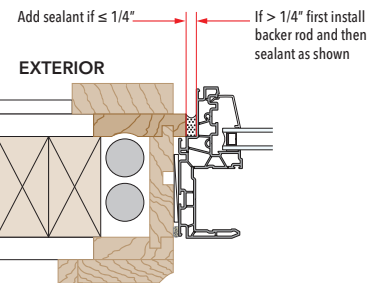

Figure 2
- Apply a continuous bead of sealant where the new frame contacts the exterior stop (Figure 1) or between the frame and the opening (Figures 2, 3 and 4). Continue the seal across the bottom of the sill adapter (if applicable). Do not block weep holes or weep hoods with sealant.